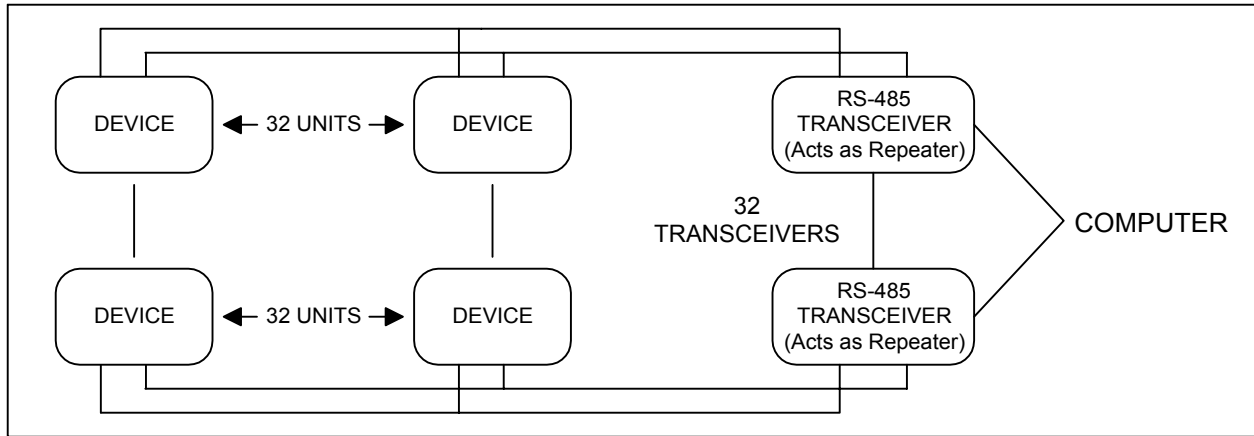

Figure 4.7: 2-Wire RS-485 Communication Installation Connection with Transceiver
- In a two-wire connection, a maximum of 900 instruments can be included in the same network (**Figure 4.7**)